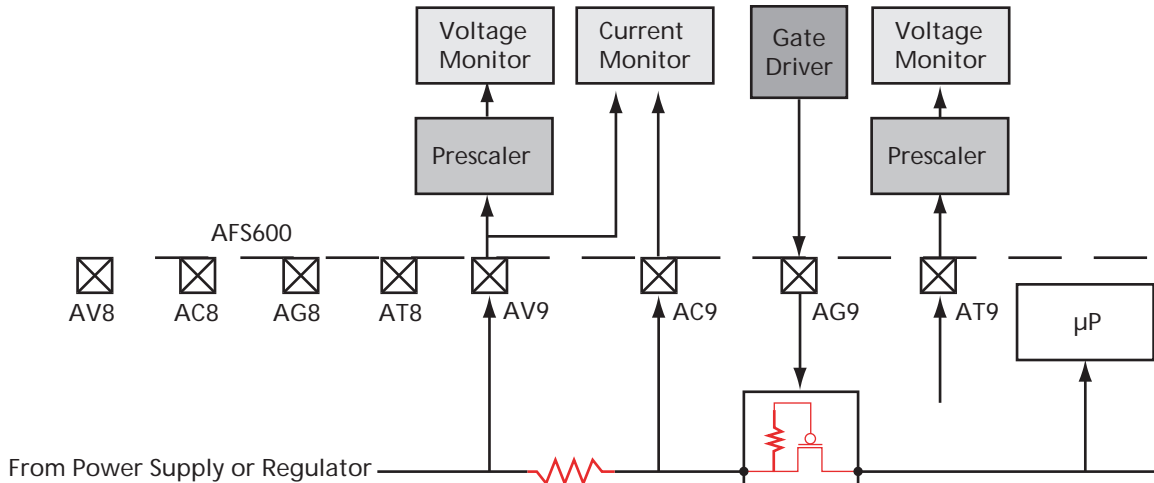

Figure 1 • Fusion Voltage/Current Monitors in Power Management System
Fusion analog I/Os are arranged in an Analog Quad (AQ) configuration (3 inputs matched with a metal-oxide semiconductor field-effect transistor (MOSFET) gate driver). Fusion devices support between 5 and 10 AQs. Each quad can easily monitor supply side or load side voltage, current, and temperature. The gate driver output provides adjustable control of external power MOSFET with either ramp-rate control or voltage potential control. These can be used for power sequencing and voltage and current protection of the load. Figure 1 on page 2 shows the details of a power management system implemented in a Fusion device. Note: Pin AT9 is used as a voltage monitor channel in this example.